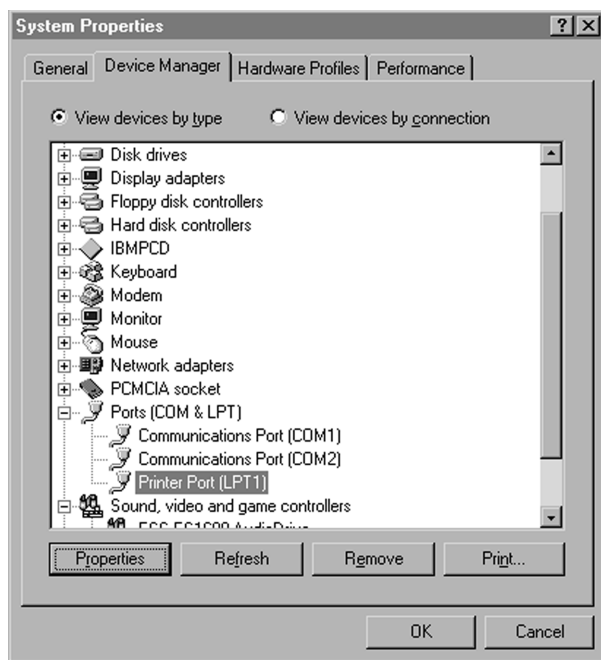

Figure 2-16 System Properties dialog box
4. Click Ports (com and LPT). Figure 2-16 shows what the System Properties dialog box looks like. From here, we can find either the COM port (serial) or the LPT port (Parallel). To find the parallel port address, continue your quest.